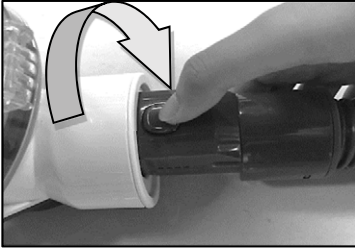

Fig 1
1. **Connect the hose accessories:** Put the hose connector in front of the vacuum cleaner. Then insert it into the inlet hole and turn right. (Fig 1)